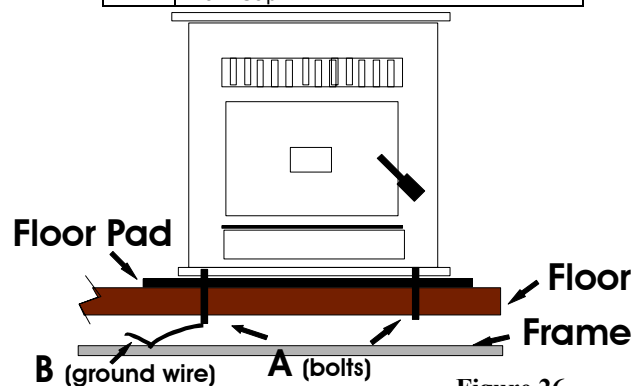

Figure 26
-  Permanently bolt your stove to the floor, (A), figure 26.
-  Electrically ground your stove or the pedestal to the steel frame of the home. Use a number 8 gauge copper wire, (B), figure 26, or equivalent.